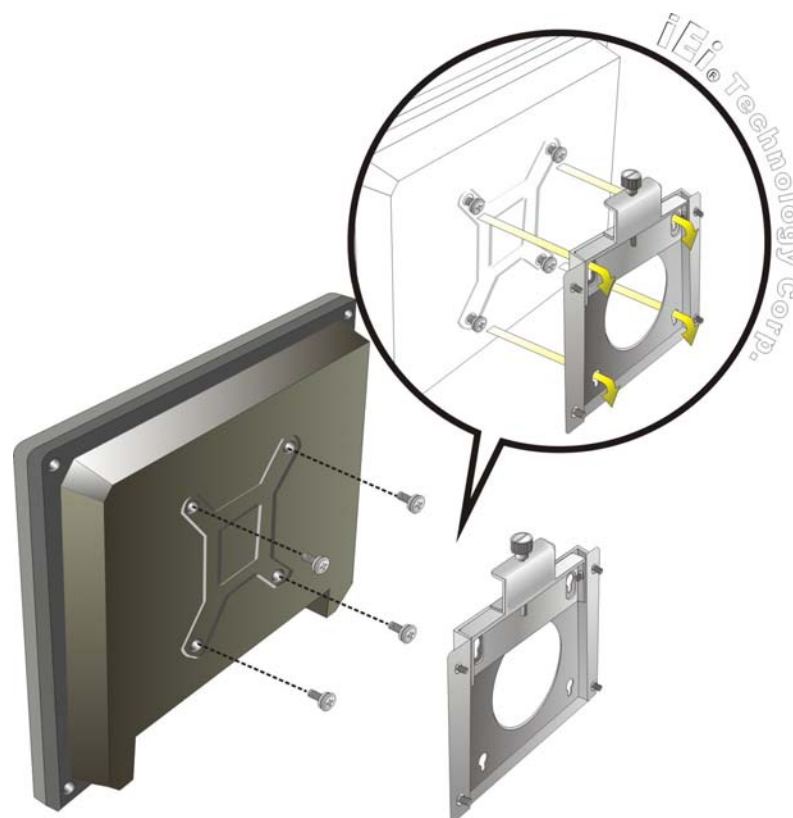

Figure 4-5: Chassis Support Screws
- Step 6:** Insert the four monitor mounting screws provided in the wall mounting kit into the four screw holes on the rear panel of the flat panel PC and tighten until the screw shank is secured against the rear panel (**Figure 4-5**).
- Step 8:** Carefully insert the screws through the holes and gently pull the monitor downwards until the monitor rests securely in the slotted holes (**Figure 4-5**). Ensure that all four of the mounting screws fit snugly into their respective slotted holes.